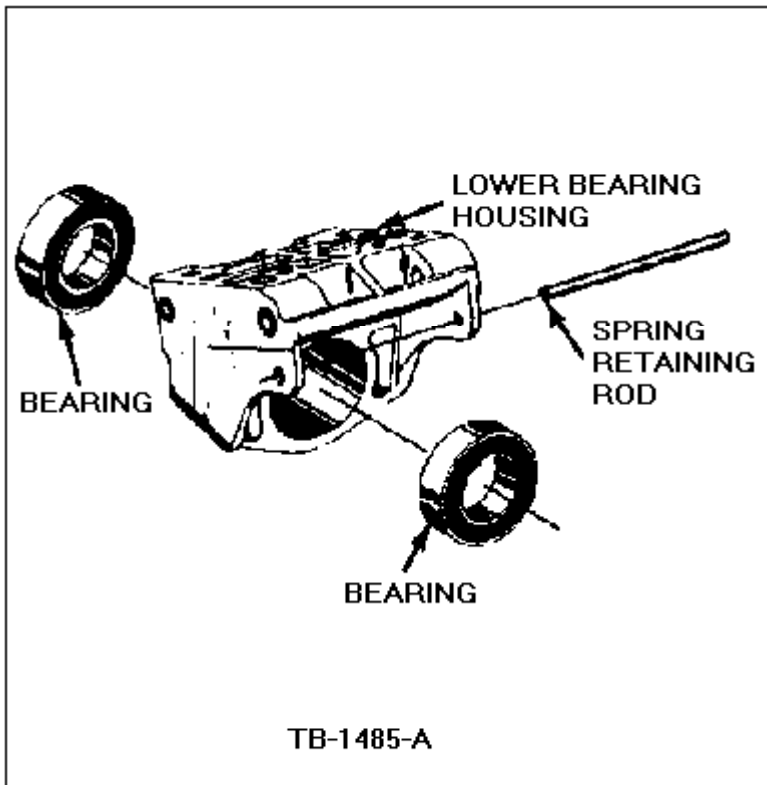

Figure 18 - Article 90-5-10
21. Remove the bearings from the lower bearing housing, if the bearings require replacement, Figure 18.